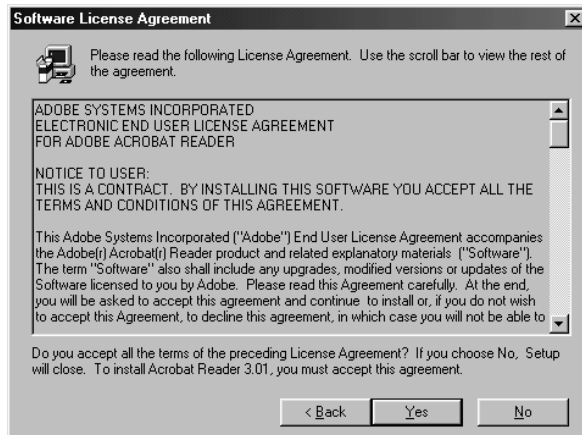

Figure 24: License Agreement
2. Click on 'Next' to continue. Figure 24 will pop up.
3. Click on 'Yes' to accept the License Agreement (Figure 24) and to continue with the installation.